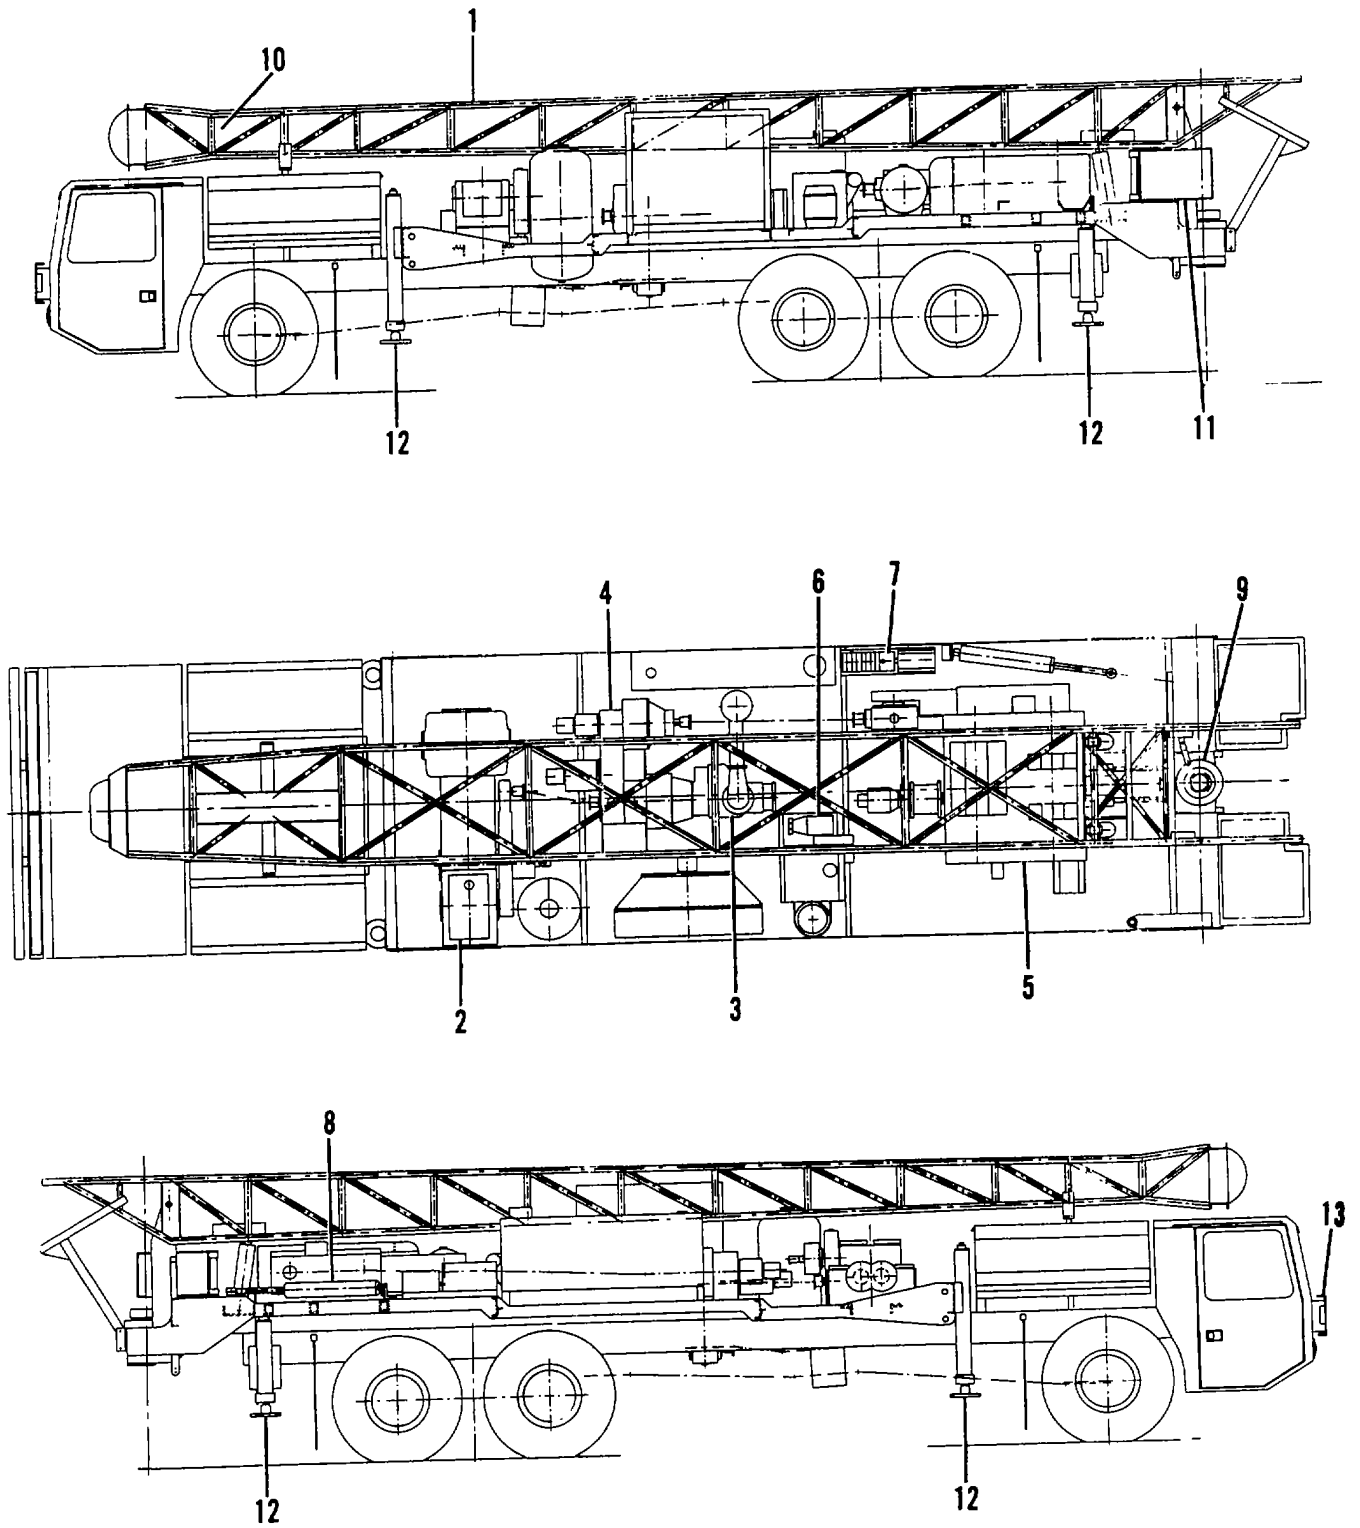

Figure 1-2. Drilling Rig Major Components
(1) Mast (1, Figure 1-2). The mast is mounted to mast pivot brackets at the rear of the drilling rig. Hydraulic cylinders raise and lower the mast to upright or transport positions. The mast's height (32') permits the use of 20' drill pipe or 20' lengths of casing. The mast is equipped with a chain feed, hydraulic-motor powered pulldown system for applying drilling pressure on the bit. A lighting system allows use of the drilling system at night.
(2) Mud Pump (2, Figure 1-2). The mud pump provides circulation of drilling fluid during drilling operations. It is a duplex, double-acting, piston-type pump with removable, hardened-steel cylinder liners. The pump is driveshaft driven from the sub-drive, by way of an air-clutch operated mud pump drive unit.
(3) Air Compressor (3, Figure 1-2). The air compressor provides air for air rotary drilling; it can also be used to supply air for drilling large diameter holes using the foam method. The compressor is powered from the sub-drive through an air clutch.
(4) Sub-Drive (4, Figure 1-2). The sub-drive assembly is a power transfer unit that receives power from the truck's power take-off. One side of the subdrive delivers power to drive the drawworks and the air compressor; the other side delivers power to drive the mud pump and the four hydraulic pumps used to deliver hydrostatic power to other rig systems.
(5) Drawworks (5, Figure 1-2). The drawworks consists of three cable drums used for lifting drilling components at the drilling site. The hoist drum supports the swivel, kelly, drill pipe, drill collars, and bits-elements that make up the "drill string." The auxiliary drum is used to handle drill pipe when adding joints of drill pipe to the drill string. These two drums have a relatively short length of cable, typically long enough for raising and lowering items the height of the mast. The third drum has much more cable, of smaller diameter, and is used to lower tools and instruments to the bottom of the hole. The drawworks is drive-shaft driven from the sub-drive, through a bevel gear box. Each drum is independently operated by an air clutch.
(6) Water/Foam Injection Pump (6, Figure 1-2). This pump system injects water and foam into the drilling system discharge line during certain drilling operations. It includes a high-pressure piston pump powered by a variable-speed hydraulic motor. Foam concentrates are injected into the water discharge line by a pulse pump, at a controlled rate.
(7) Force Feed Lubrication System (7, Figure 1-2). This system provides lubrication into the air discharge line to lubricate down-the-hole drilling tools. It includes a force feed pumping mechanism; it has two feeds and one check valve.
(8) Break-out Tool Assembly (8, Figure 1-2). This device consists of a wrench and a hydraulic cylinder. It provides a mechanical leverage to separate the drill pipe connections when the drill string is being removed from the hole.
(9) Rotary Drive and Rotary Table (9, Figure 1-2). The rotary table is driven by a hydraulic motor, through a 4-speed transmission and a drive shaft. These components work together to provide the rotating motion that is then transferred to the drill pipe, and therefore, to the drill bit.
(10) Pulldown and Chain Feed (10, Figure 1-2). This system, most of which is mounted on the mast, includes a hydraulic motor and a 2-speed transmission. Power from the motor/transmission is transferred to shaft sprockets, and then to the chain which spans the length of the mast. The chains connect to a yoke that is attached to the rotary swivel. When power is applied to the chains, pressure is transferred to the yoke, swivel, drill pipe, and subsequently, to the drill bit.
(11) Instruments (11, Figure 1-2). The controls needed to perform most of the drilling operations are located at the left rear corner of the drilling rig. Gages and indicators provide sight readings of the various conditions of components of the drilling rig. Some indicators and controls are located at other remote points around the drilling rig.
(12) Hydraulic Jacks (12, Figure 1-2). Four hydraulic cylinders and jack baseplates are mounted to the drill frame at each of the rig's four corners. Each cylinder is controlled, independent of the others, by hydraulic actuators on the operator's control panel. The removable baseplates include security chains. Ample blocking is provided to ensure rig stability in sandy locations.
(13) Winch Assembly (13, Figure 1-2). A hydraulically driven, 20, 000 pound capacity winch is mounted on the front bumper of the drilling rig truck. It is operated from inside the truck cab by an air-shift control. Normally, the winch is used for non-drilling related operations, such as pulling the drilling rig, or other vehicles, from difficult-terrain situations.
**c. Equipment Data.**(1) Mast.**DIMENSIONS:**